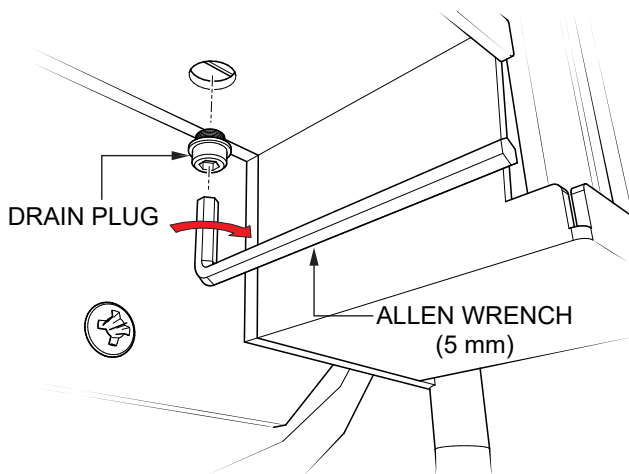

Figure 34. Installing Oil Drain Plug
6. Using a 5 mm allen-wrench, reinstall **oil drain plug** at the bottom of gearbox as shown in Figure 34. Tighten plug securely.